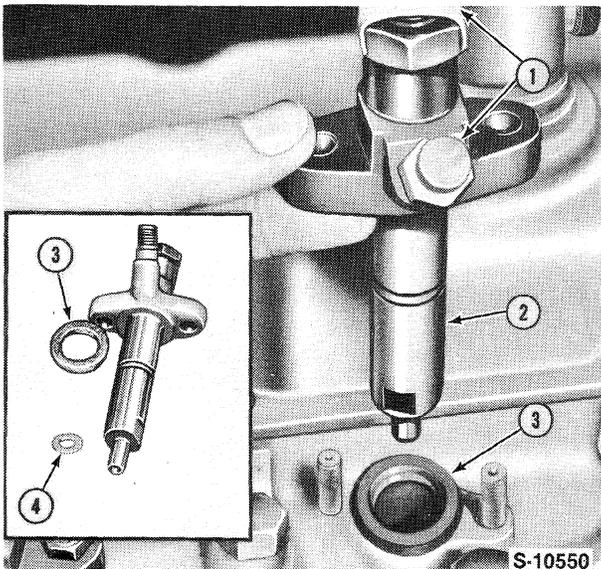

Figure 5
16. Remove the fuel injector leak-off line. Clean the area surrounding the fuel injectors then remove the retaining nuts and carefully withdraw the fuel injectors and sealing washers from the head, Figure 5.